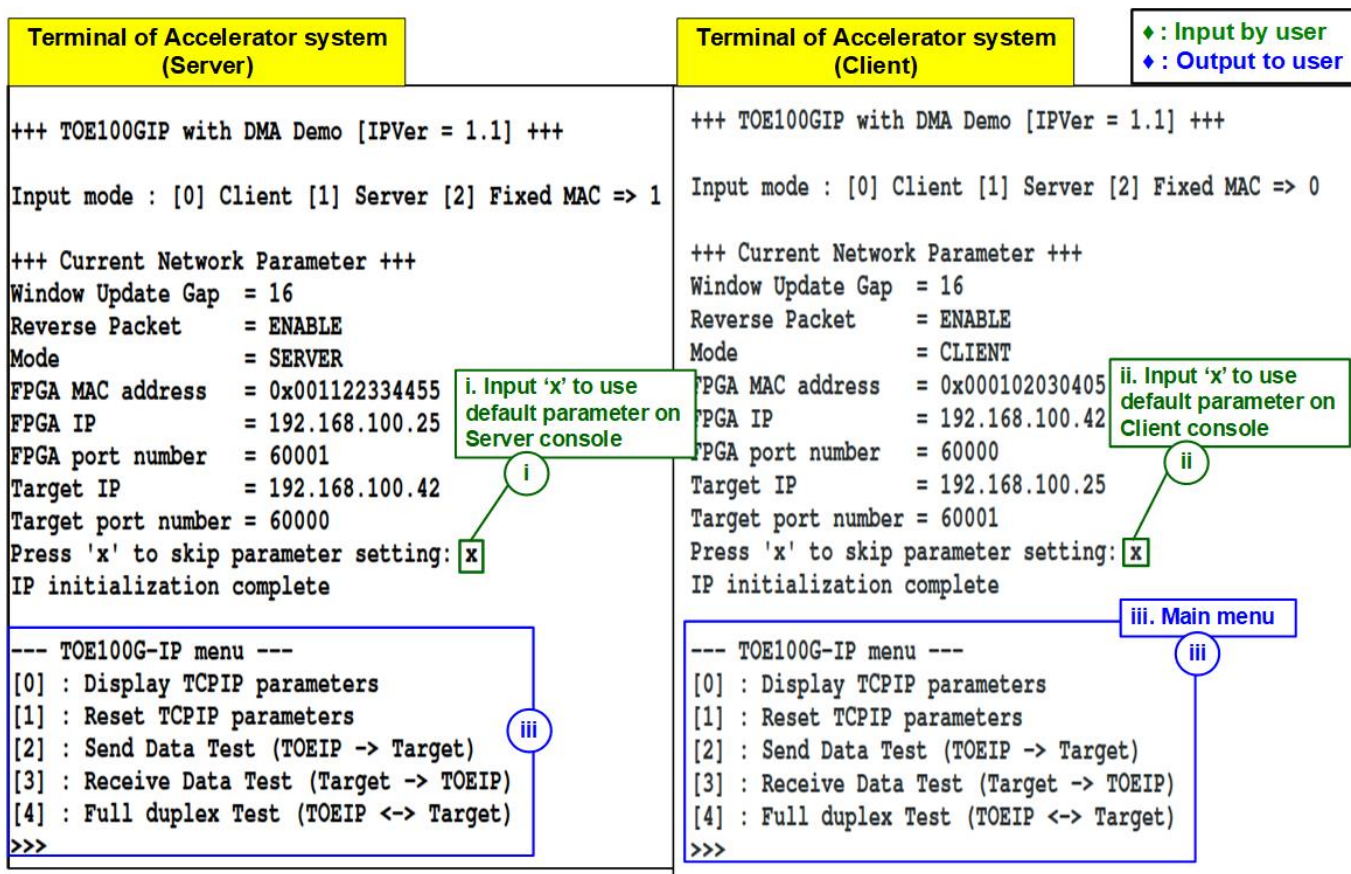

Figure 4-3 Main menu of TOE100G-IP demo
- 4) Input 'x' to use default parameters or other keys to change parameters. The parameters of Server mode must be set before Client mode. Please run the following step to complete the initialization process, as shown in Figure 4-3.